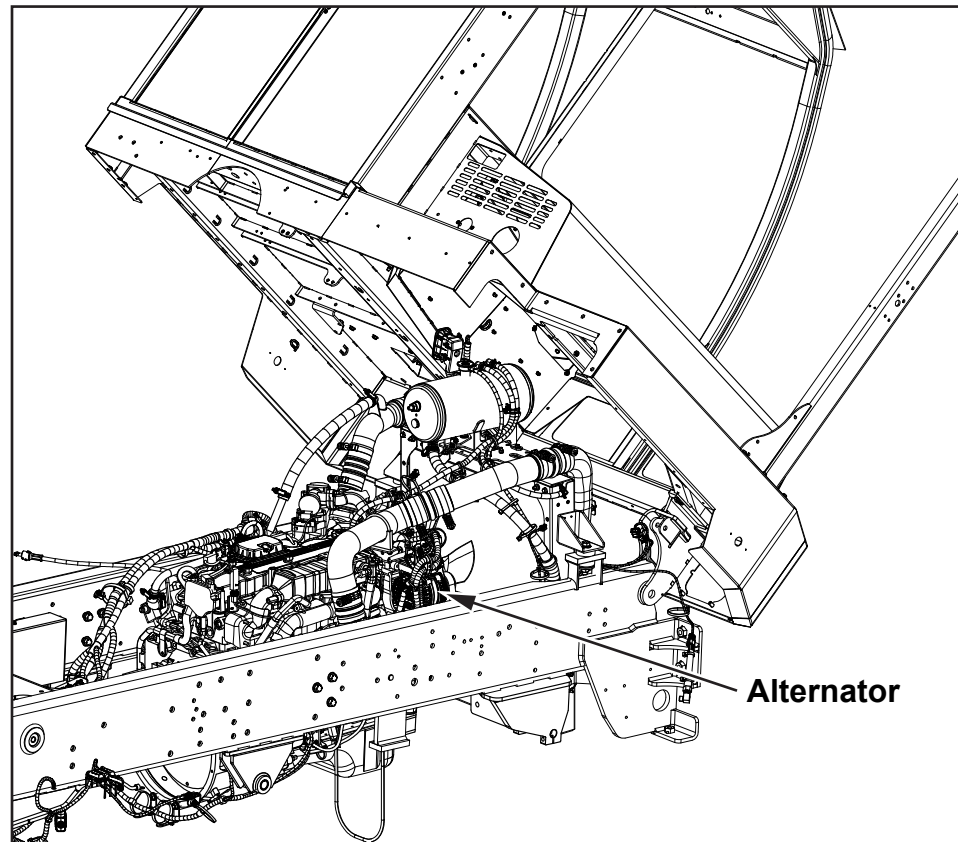

Figure 2
4. Locate the alternator and cables at the right side of the engine (see *Figure 2*).